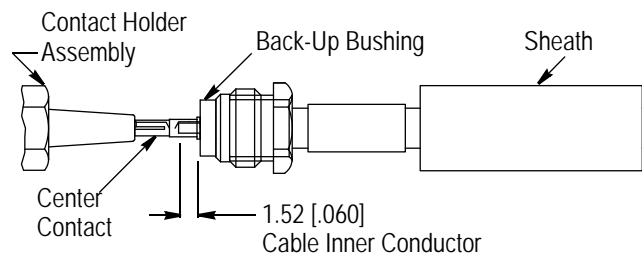

Figure 5
3. Trim and de-burr the cable inner conductor projection to the dimension given in Figure 5.
- Changed dimension in Figures 5 and 7